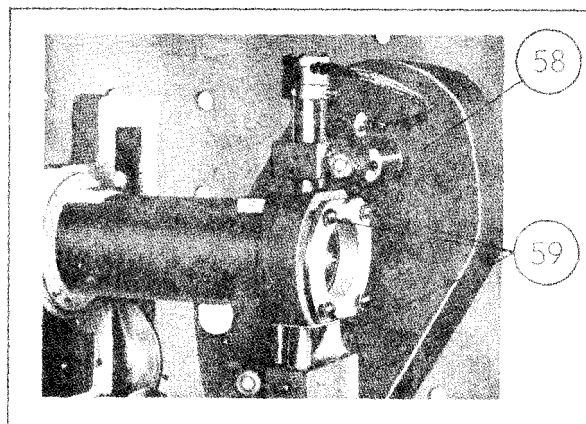

Figure 4-43. Assembly of Grid Contact Clamping Plate
Figure 4-43 shows the procedure for assembling the grid contact clamping plate (58). The four 8-32 x 1/2 inch screws (59) should be tightened until the clamping plate sears against the end of the cavity block.